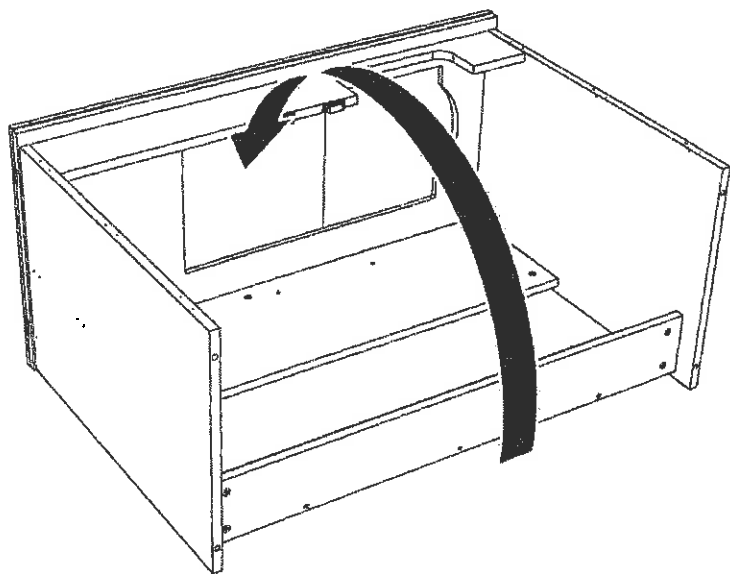

FIG. 9A
**Step 9.** Once Top Assembly (A, B, C) is on securely, with 2 people CAREFULLY flip the cabinet on its back, as shown in FIG. 9A.